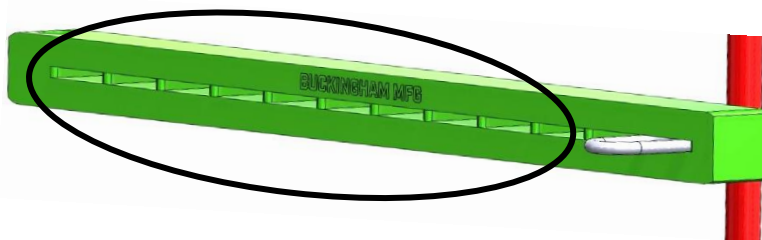

Fig. 8
3. Pull the stick away (leaving the staple in the pole) and continue to hammer staple to desired depth (Fig. 8).